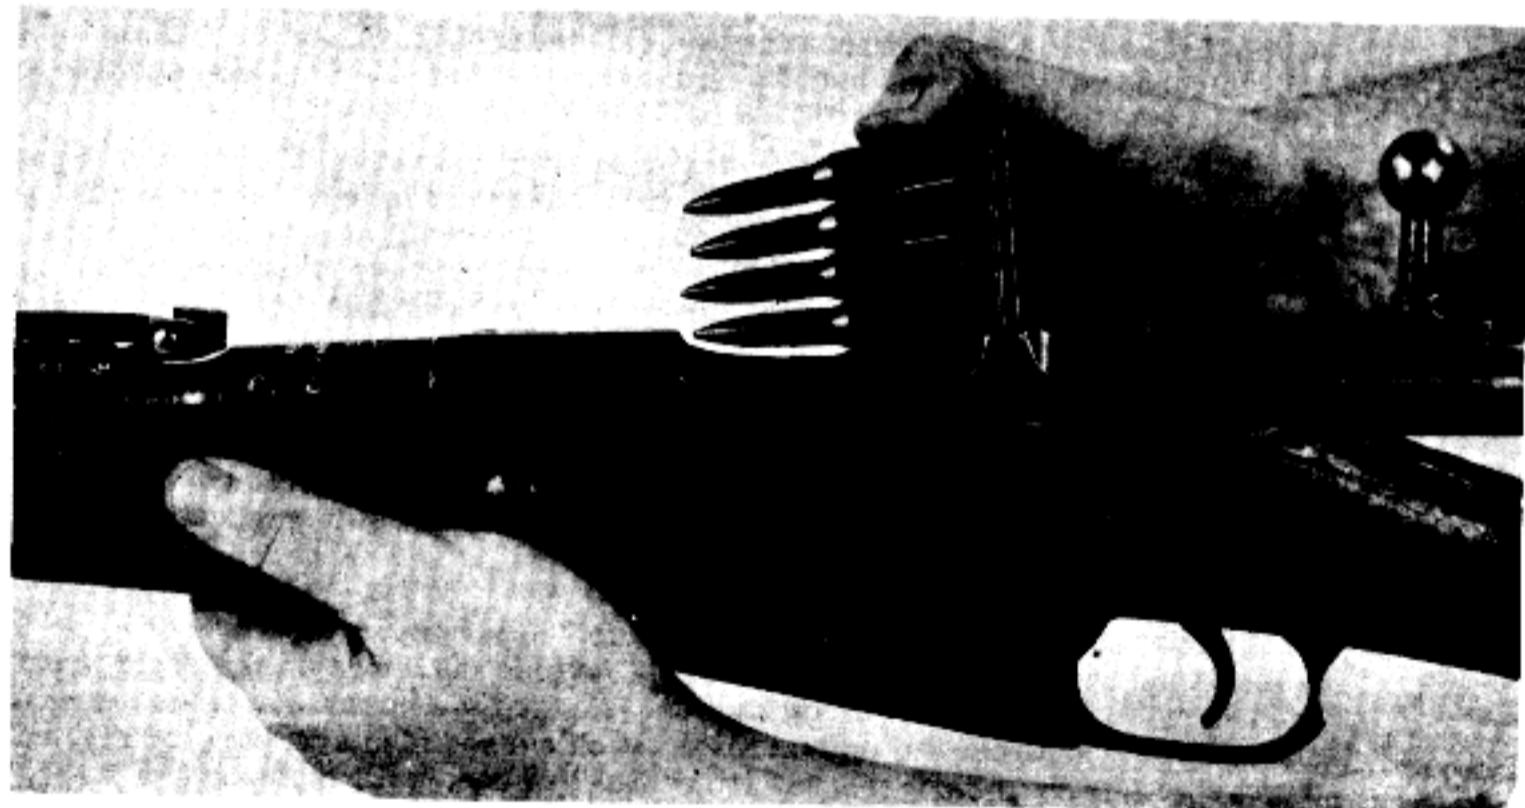
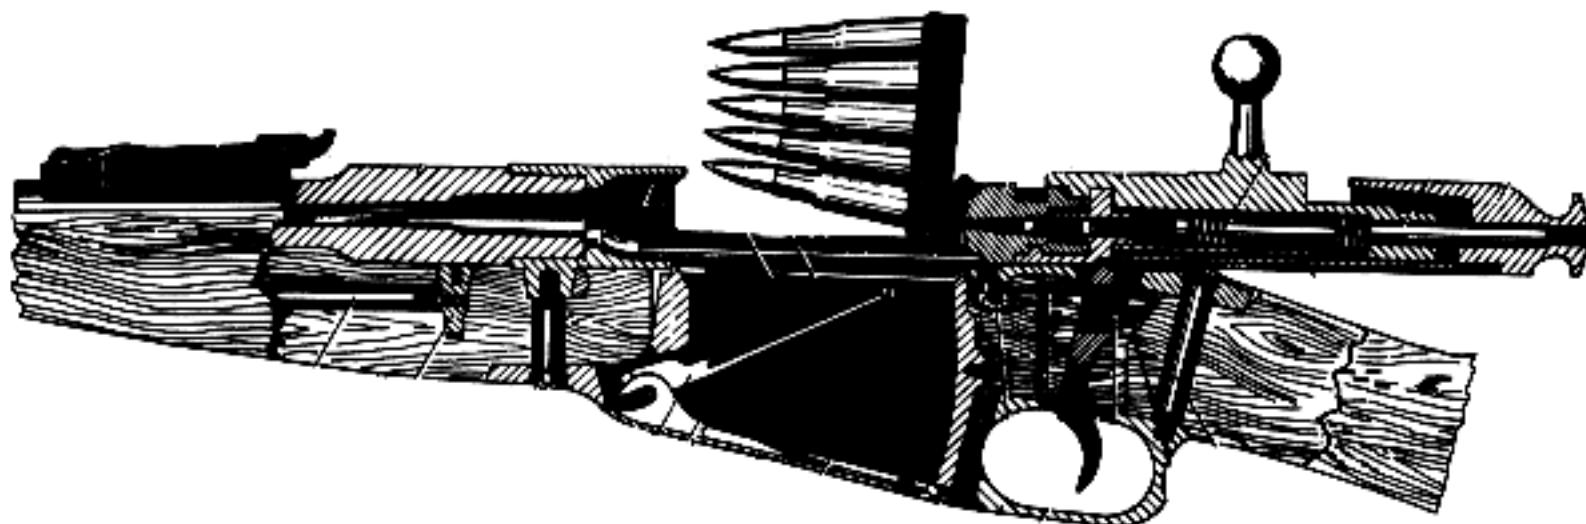
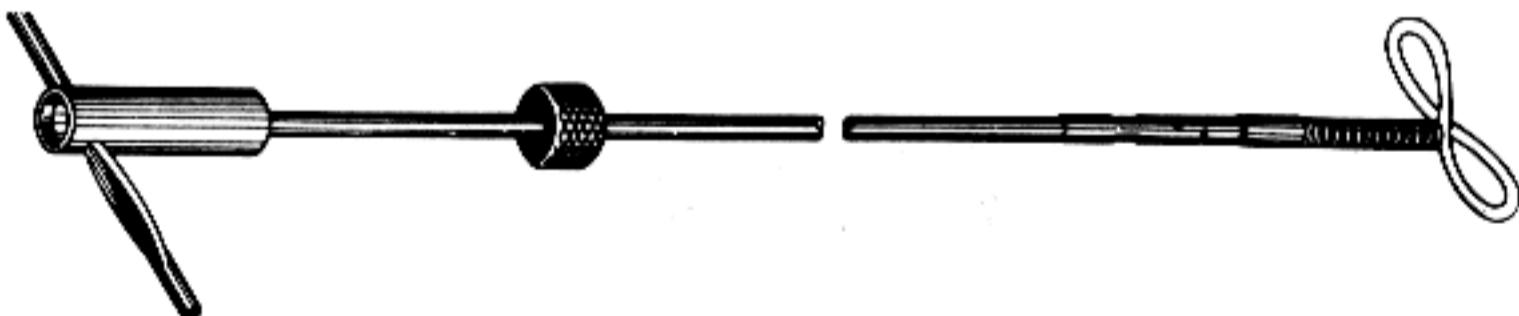
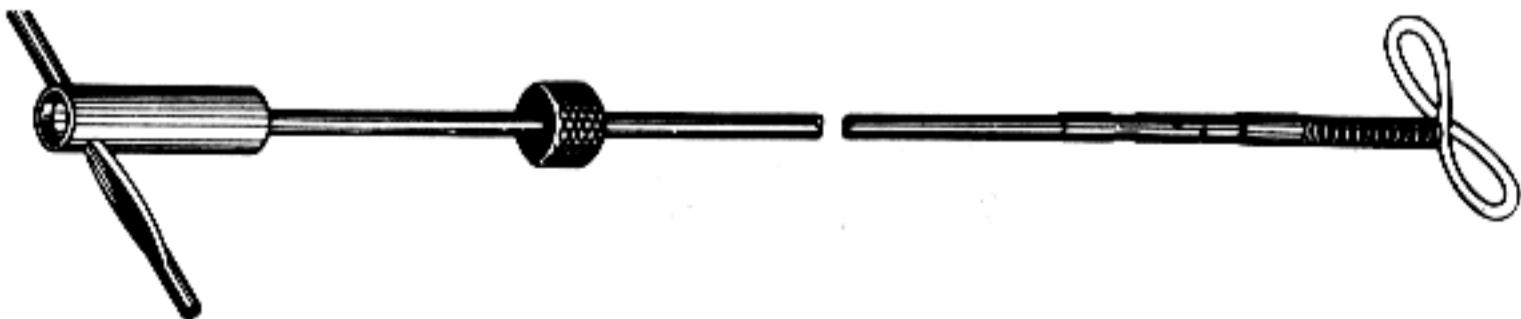

FIGURE 36. CLIP-LOADING THE RIFLE.
FIGURE 37. POSITION OF PARTS PRIOR TO LOADING THE RIFLE.
FIGURE 40. CLEANING ROD ASSEMBLY.
FIGURE 40. CLEANING ROD ASSEMBLY.
b. The rifle M1891 is loaded in the same manner as the United States Springfield or any Mauser rifle. Open the bolt, place a clip of cartridges in the clip guides, and press the rounds down into the magazine (fig. 36). Close the bolt; the clip will then fall out of the clip guides onto the ground. The position of the rifle parts before and after loading is illustrated in figures 37 and 38. Before squeezing the trigger, observe all the safety precautions used when firing United States rifles.
Each Mosin-Nagant bolt action rifle and carbine is provided with a one-piece cleaning rod (fig. 40) which is fitted in the stock. The rod is threaded on the end to take the tapped retaining nut embedded in the stock just below the chamber (fig. 37). An accessory pouch (fig. 41) is carried by each rifleman. It contains a screwdriver, oil can, cleaning rod head, cleaning rod brush, cleaning rod attachment, rod collar, and cleaning rod stop (fig. 42). There are variations in the design of the oil can and screwdriver (fig. 43).